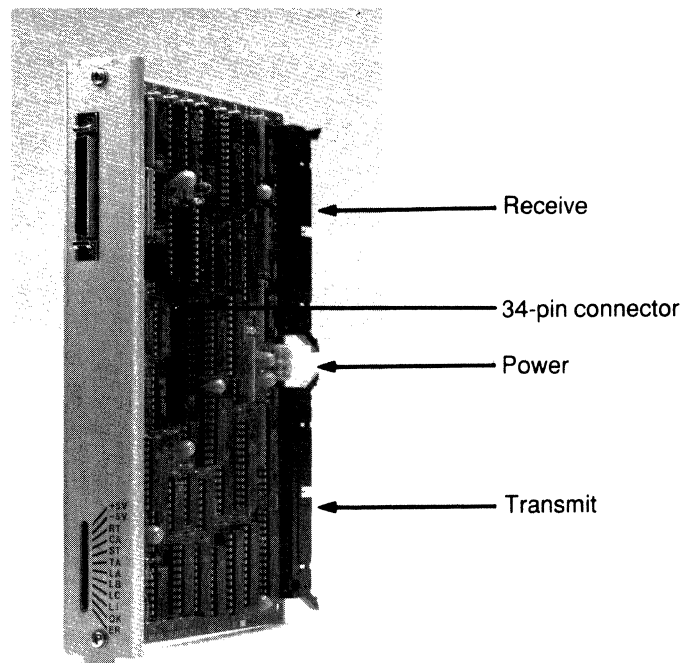

Figure 4-20 HSA Applique
The HSA applique, shown in Figure 4-20, contains one HSSI 50-pin connector, which provides a single port for a high-speed data communications of up to 52 Mbps. Internally, the HSA is connected to the HSCI controller card via a 6-pin power cable, a 34-pin control cable (HSA only), and two 50-pin ribbon cables, transmit and receive, respectively. Externally, the connector mates to an HSSI interface cable, which in turn connects the AGS+ to an external DSU. The HSSI cable is secured to the chassis connector with a spring latch located in the cable connector housing.
- Step 4:** Connect the 6-pin power cable to the 6-pin connector on the applique, shown in Figure 4-20. Carefully thread the other end of the cable under the system card cage (in which the HSCI resides) to the front of the chassis. Connect this end of the cable to the 6-pin connector on the HSCI card.
- Step 6:** Connect one of the 50-pin cables to the 50-pin Receive (R) connector on the applique, shown in Figure 4-20. Thread the other end of the cable under the system card cage to the front of the chassis. Connect this end of the cable to the 50-pin Receive (R) connector on the HSCI card.
- Step 7:** Connect the other 50-pin cable to the 50-pin Transmit (T) connector on the applique, shown in Figure 4-20. Thread the other end of the cable under the system card cage to the front of the chassis. Connect this end of the cable to the 50-pin Transmit (T) connector on the HSCI card.